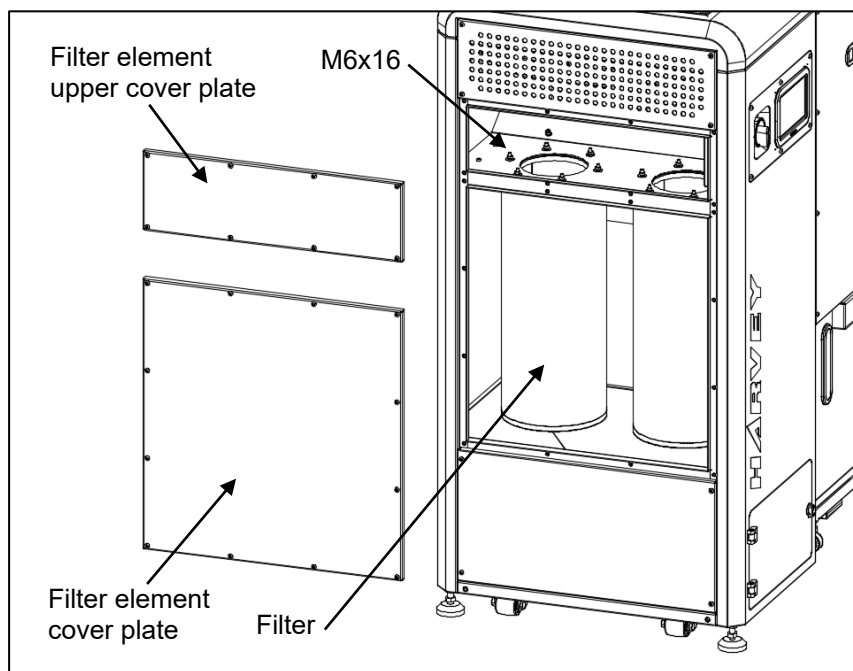

Fig. 17
6.3 Cleaning or Replacing the Filters (Fig.17)
2. If additional cleaning is required, turn the locking knob, unscrew and remove the filters, and use compressed air to clean the dust on the filter's exterior (**Fig. 17**).